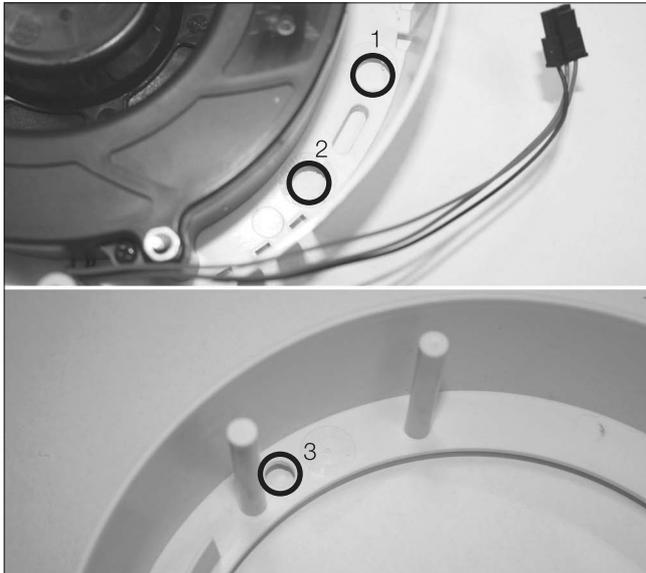

Fig.5A
- 5 There are 3 cable entries on the rear assembly. Locate the one suitable for the install and pull the mains cable through the selected entry hole (Fig.5A).
- 18 Feed the power cable through the hole (See page 12, Fig.5A & 5B). Secure the rear and centre assembly together using the screws provided (Fig.18A).